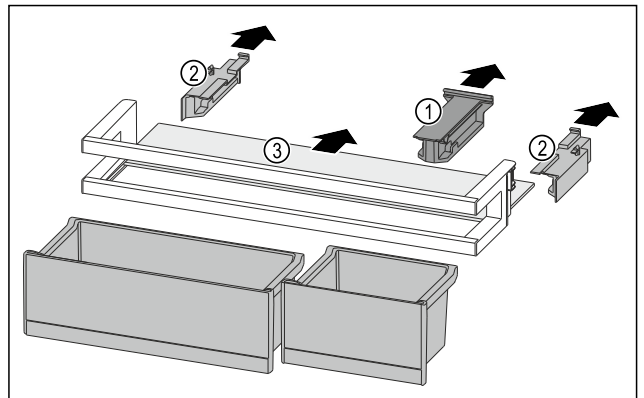

Fig. 213
- ▶ Pull off the holding part Fig. 213 (1).
- ▶ Pull off the side parts Fig. 213 (2).
- ▶ Remove the shelf Fig. 213 (3).